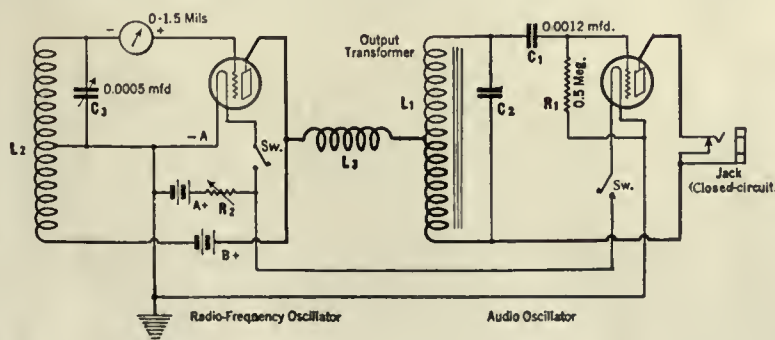

FIG. 1
MEASURING THE CAPACITY OF A MICA CONDENSER BY MEANS OF THE MODULATED OSCILLATOR SHOWN IN FIG. 1
**A**MONG other uses to which the modulated oscillator described in the June RADIO BROADCAST and shown schematically here in Fig. 1 may be put, is that of comparing or measuring the capacities of small condensers. For example, it may be necessary to measure the maximum and minimum capacity of a variable condenser in terms of a standard, or it may be desirable to calibrate such a condenser. The modulated oscillator is very useful for this purpose, making it possible to substitute visible measurements for the audible indications of a bridge balance.